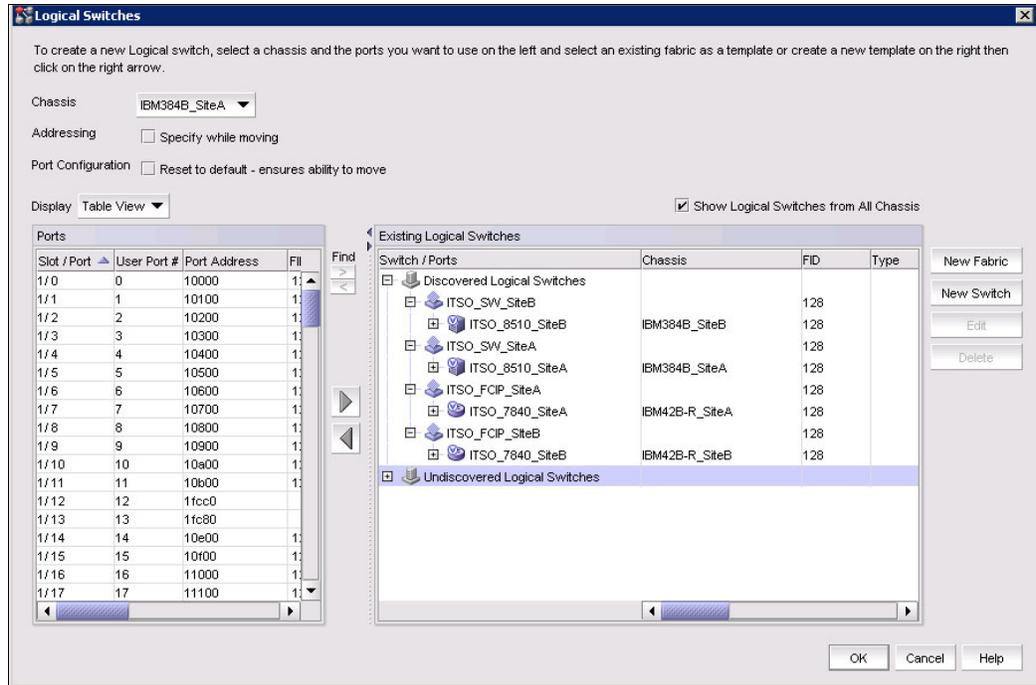

Figure 6-27 Adding logical switch for the SVC public SAN
4. Create a logical switch on physical chassis ITSO_8510_SiteA for SVC public SAN. To create a logical switch, select **Configure** → **Virtual Fabric**. The logical switches window is displayed (Figure 6-27). Select the physical chassis **IBM384B_SiteA** in the **Chassis** list box.